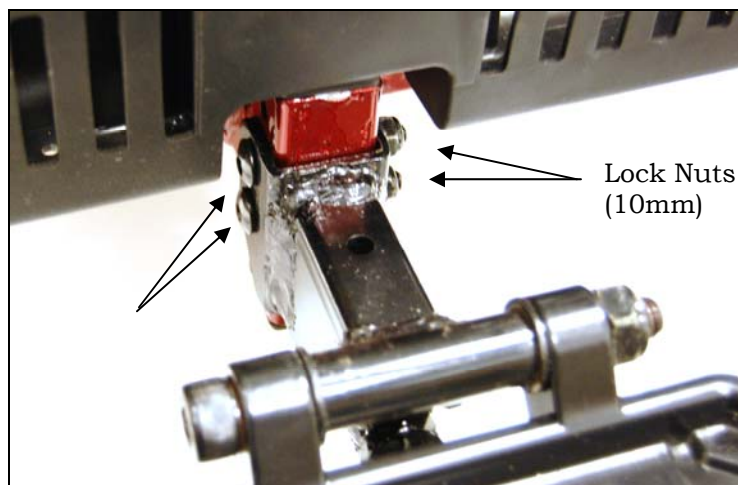

Figure 12
2. Use a 10mm socket and 4mm Allen wrench to remove the bolts indicated in figure 12.